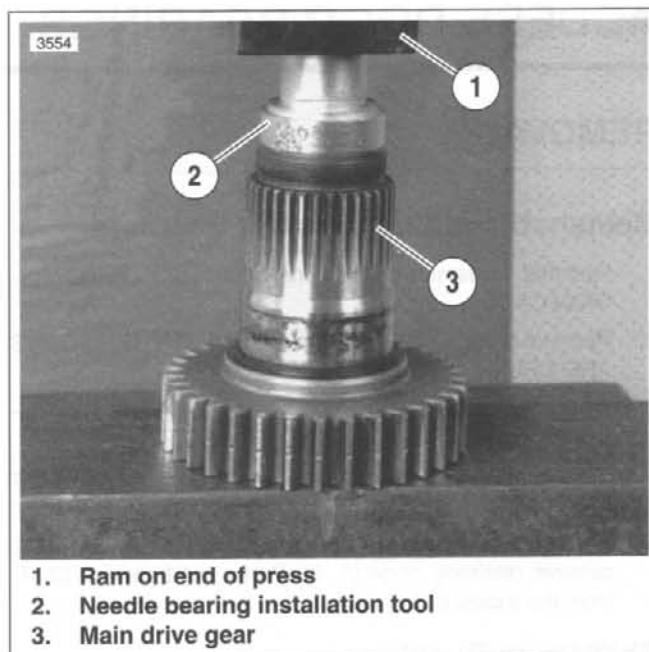

Figure 6-54. Needle Bearing Installation Tool
1. See Figure 6-54. Use INNER/OUTER MAIN DRIVE GEAR NEEDLE BEARING INSTALLATION TOOL (Part No. HD-37842A) for assembly. Select which end of tool to use.